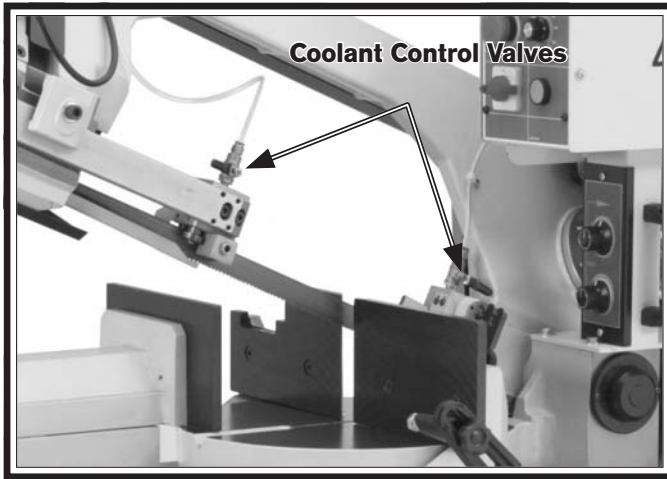

Figure 35. Coolant control valve.
4. Adjust the valves on the coolant hoses to control the flow of coolant (see **Figure 35**). Make sure that the pressure is not so high that coolant spills on the floor and creates a slipping hazard.